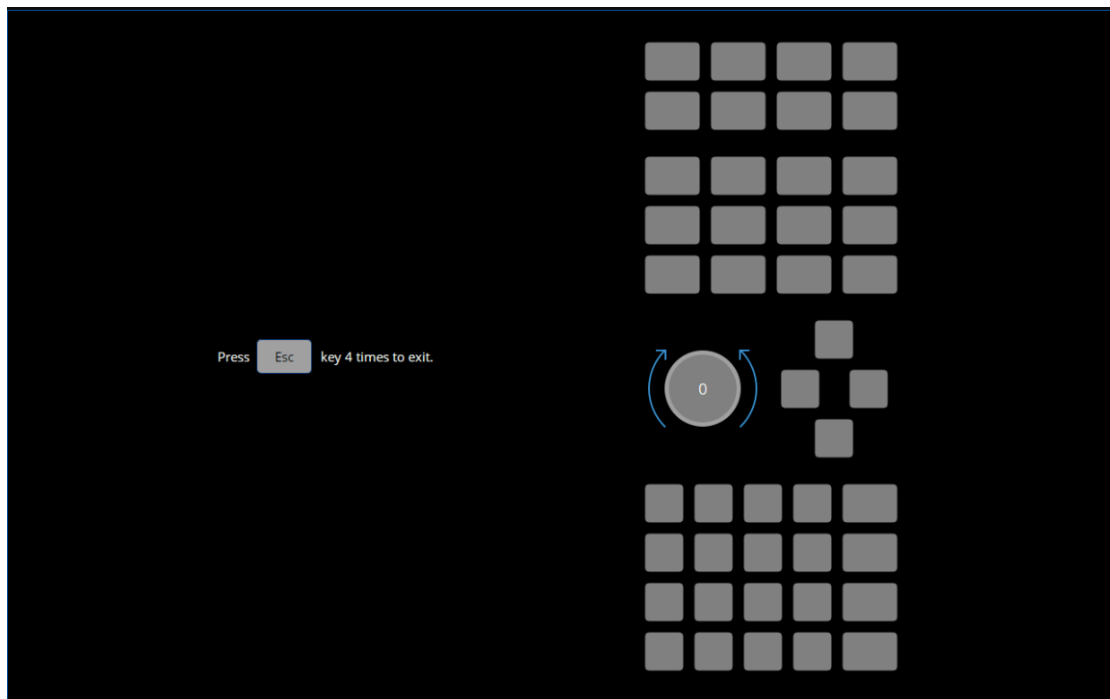

Figure 6-4 Front panel key test box
1. Press UTILITY System key, then Self Test, then Key Test.... A Front Panel Key Test Box will be displayed, as shown in Figure 6-4